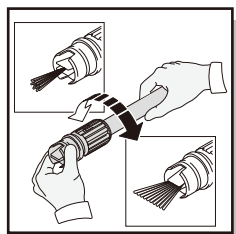

Fig. 7
- When using the adjustable spray lance, the spray pattern and intensity can be controlled according to power of water needed for each task by twisting the spray nozzle at the far end of the lance (Fig. 7). These can be used for sweeping leaves or debris from flat surfaces or curbing. This lance has the widest variety of applications as the fan degree allows for good impact pressure and cleaning coverage.